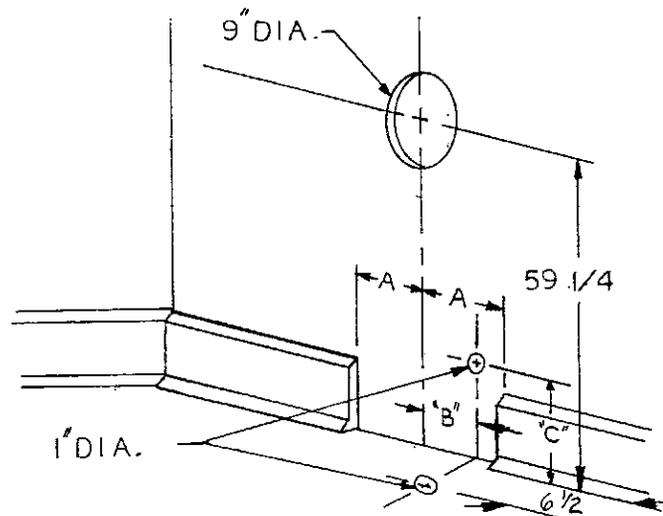

FIG. 1
1. Observe minimum space requirements shown in Fig. 1.
1. After the location for your wall furnace has been selected, a 9" dia. hole must be cut through the inside wall and outside wall. Use dimensions shown in Fig. 1 for this hole location.
2. It is advisable to mark center lines on the wall to use after the hole has been cut through the wall. Proceed now to cut the 9" dia. vent hole through the wall (Fig. 1).
5. Remove a section of baseboard equal to dimension "A" from each side of the centerline determined in Step 4 above (Fig. 1).
6. Now cut the 1" dia. hole in **either** the inside wall **or** floor for the gas line, depending on whether the gas line is to be brought through the wall or floor (Fig. 1).